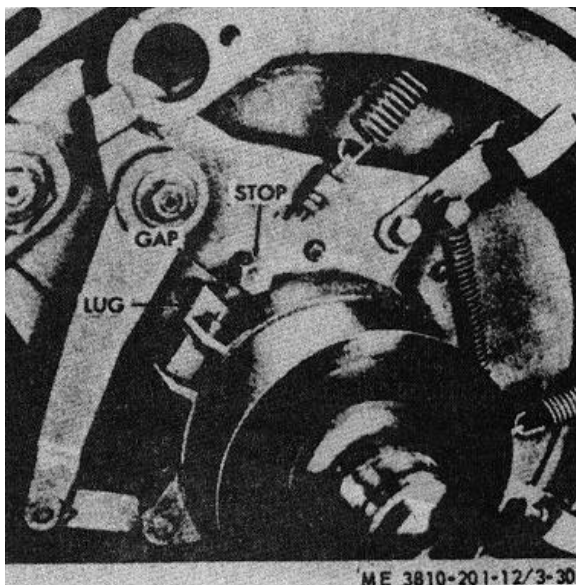

Figure 3-22. Main hoist or auxiliary clutch lining wear determination.
(2) Engage the engine clutch long enough for the clutch to “wrap in”, then measure gap (fig. 3-22) between lug and stop on clutch spider. If there is less than 1/2 inch clearance between these points, the main clutch linings are worn and must be tightened. If there is more than 1/2 inch clearance between the above points the auxiliary clutch must be adjusted.